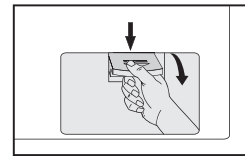

Fig 18
1.After the power is disconnected, use hand to open the filter cover(Fig18).